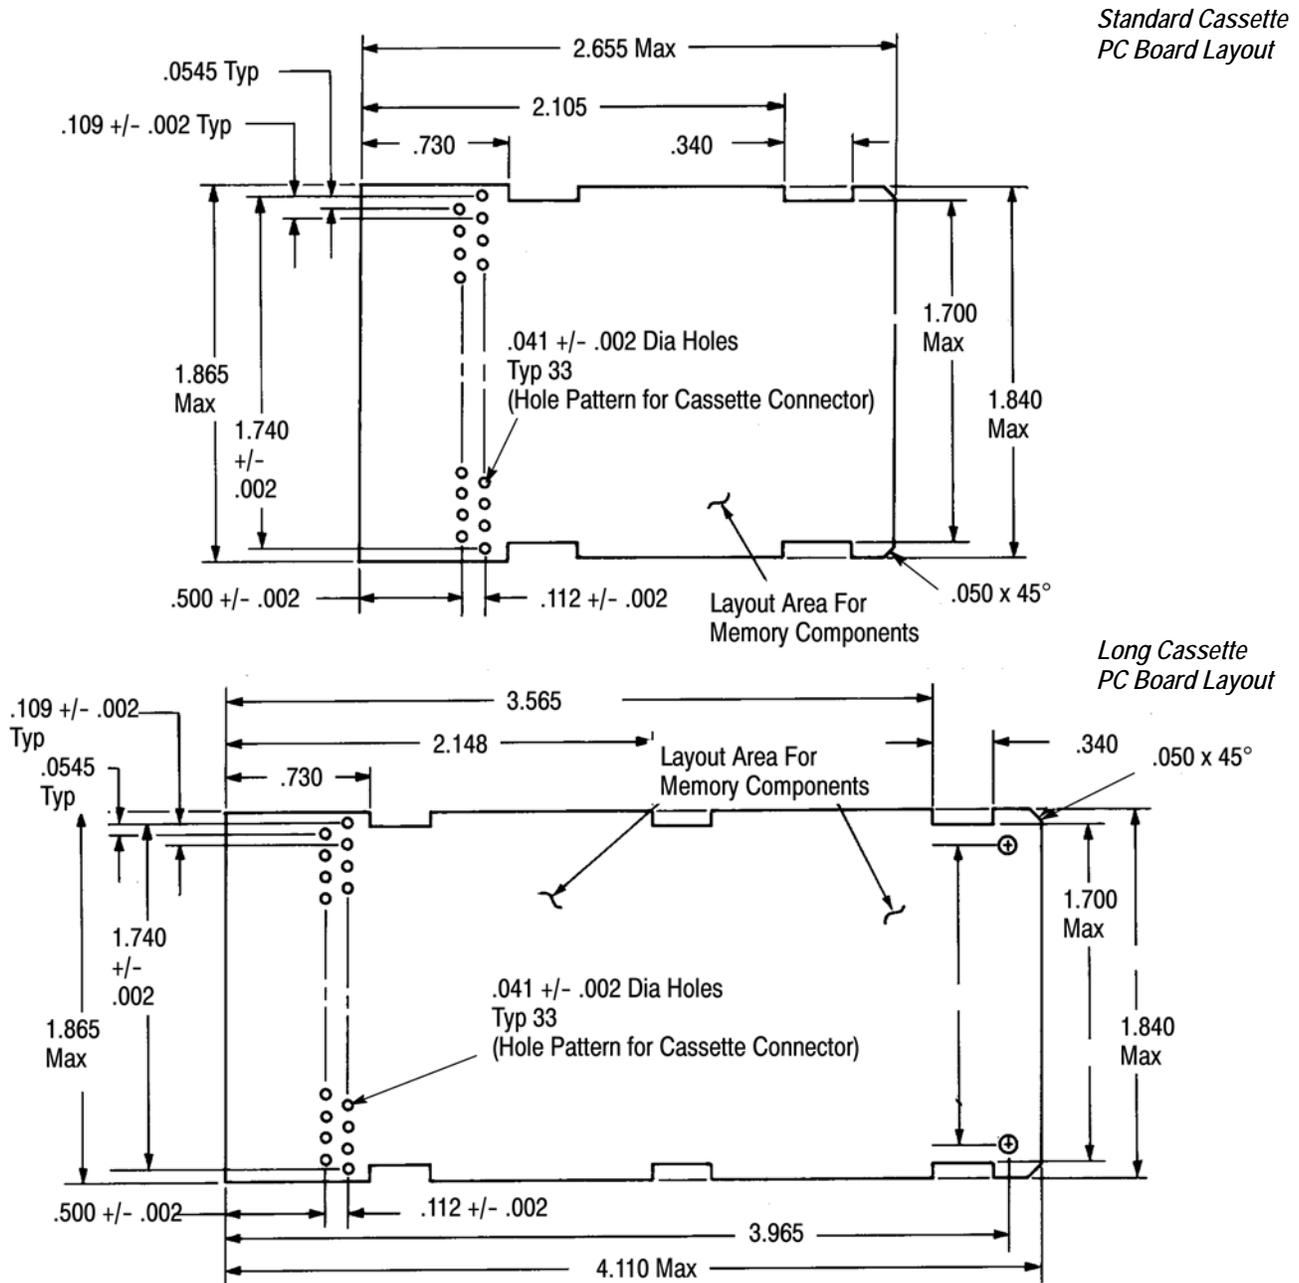

Figure 2
### 3.1. Cassette Assembly (Figure 2 and Figure 3)
1. Determine whether a standard or long unit will be used. Then, using the dimensions shown in Figure 2, select a pc board for the cassette. Make the latch and beveled corner cuts on the pc board edges as shown.